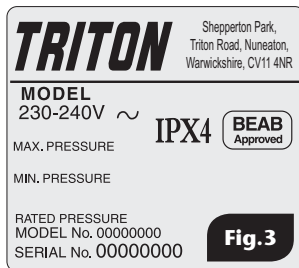

Fig.4 Schematic of installation circuit
- 4** Check your consumer unit (main fuse box) has a main switch rating of 80A or above and that it has a spare fuse way which will take the fuse or Miniature Circuit Breaker (MCB) necessary for the shower (**Fig.4**).